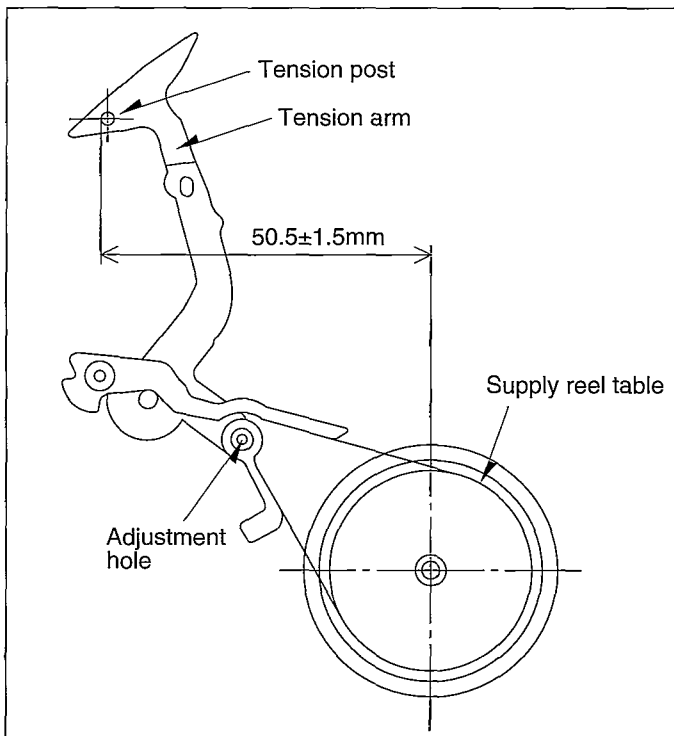

Fig. M1
- (1) Disconnect the AC plug.
- (2) Remove the TOP PLATE.
- (3) Turn the LOADING MOTOR until the loading completes.
- (4) Adjust the hole of Tension Band Fastener by Hex Wrench until the distance between the Tension Post and the center of Supply reel table is 50.5 ± 1.5 mm as shown in Fig. M1.